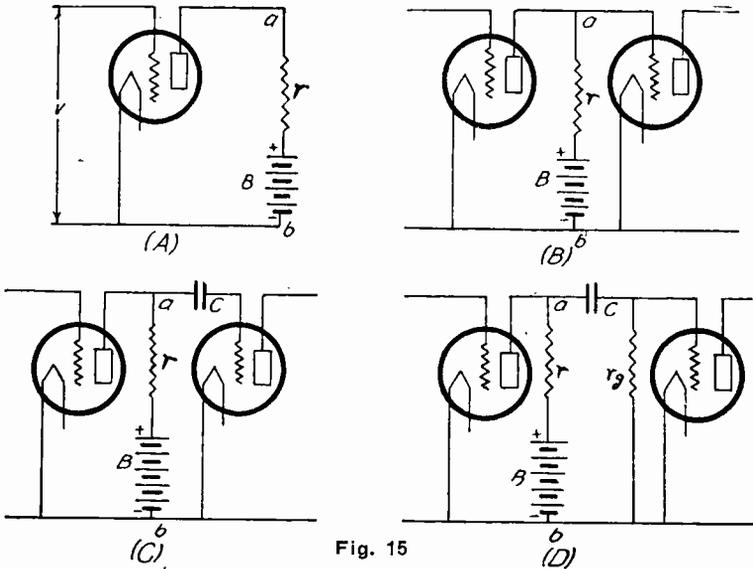

Fig. 15
In order to obtain energy from the plate circuit of an electron tube, we must have a “load” which can receive this energy. Now this load may just as well be an ordinary resistance. A resistance has an advantage over an inductance, in that it does not vary with the frequency. Figure 15-(A) shows what we mean. We have again left out the filament
If we wanted to add another tube to the amplifier, we might just as well connect it to the points a and b, as we have done in Figure 15-(B). But right here enters a difficulty.
In order to avoid this large positive bias we place a blocking condenser in series with the grid of the second tube, as shown in Figure 15-(C). This is marked C. Now we have introduced *two* more complications. In the first place the re-
To come to the other difficulty which we mentioned. If you look carefully at Figure 15-(C), you will notice that the grid of the second tube is "free." That is to say, the condenser prevents the electrons, which the grid may collect, from leaking off the grid and passing on back to the filament from which they originally came. We will not repeat here the ill-effects of the "free" grid as we have taken this up earlier in this lesson.
It will be sufficient to say that a leakage path must be furnished, and so we connect in the circuit the grid leak  $r_g$ , in Figure 15-(D). In this figure we have the complete circuit diagram of the resistance-capacity coupled amplifier, minus the "A" battery.